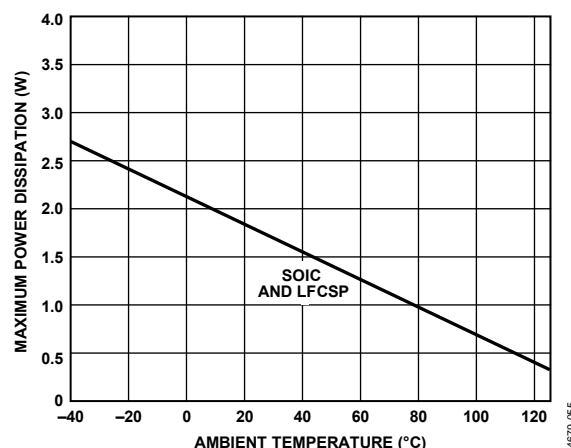

Figure 4. Maximum Power Dissipation vs. Temperature for a 4-Layer Board
Power Dissipation	See Figure 4
Figure 4 shows the maximum safe power dissipation in the package vs. the ambient temperature for the exposed paddle (EP) 8-lead SOIC ($\theta_{JA} = 70^{\circ}\text{C}/\text{W}$) and the 8-lead LFCSP ($\theta_{JA} = 70^{\circ}\text{C}/\text{W}$) on a JEDEC standard 4-layer board. θ_{JA} values are approximations.